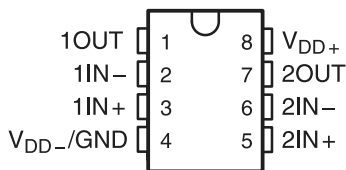

Figure 4-2. Pin Diagram (TSSOP (PW) 8 Package)
4.2 TSSOP (PW) 8 Package
Figure 4-2 shows the TLC2272-Q1 pin diagram for the TSSOP (PW) 8 package. For a detailed description of the device pins please refer to the *Pin Configuration and Functions* section in the TLC2272-Q1 data sheet.